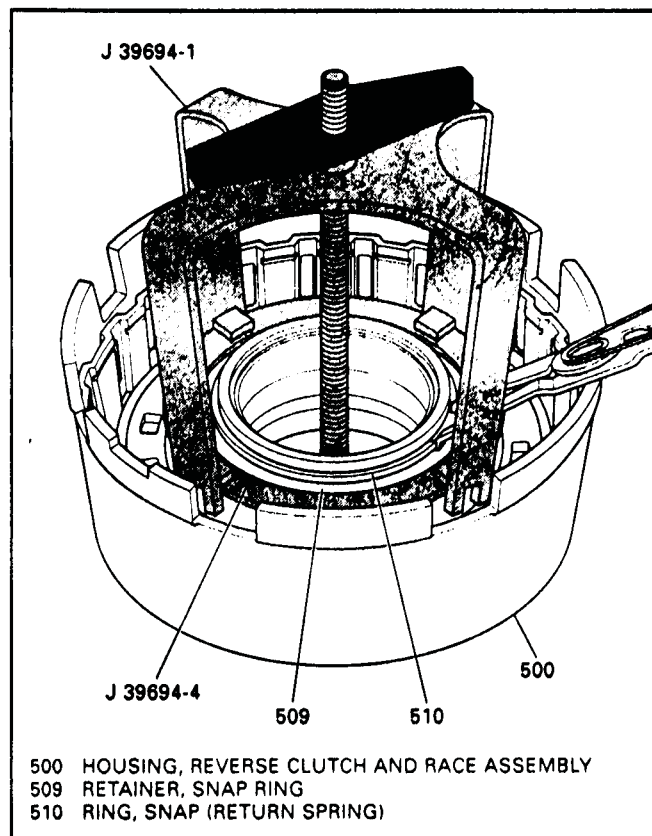

Figure 68
7. Compress spring assembly using tool J-39694 as shown in Figure 68.
8. Install snap ring as shown in Figure 68, and remove spring compressor.